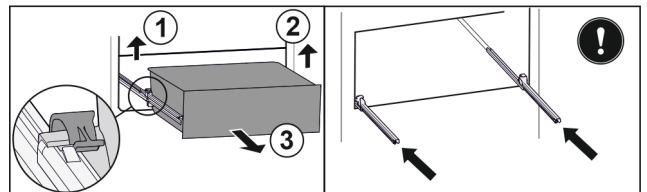

Fig. 96
- Lift left clamp and simultaneously pull drawer forwards on the left. Fig. 96 (1)
- Lift right clamp and simultaneously pull drawer forwards on the right. Fig. 96 (2)
- Remove drawer to the front. Fig. 96 (3)